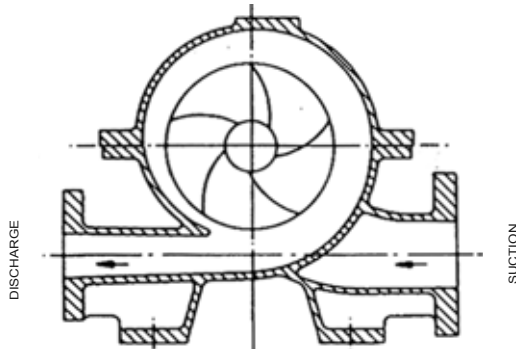

Figure 1: CLOCKWISE ROTATION
Note: For clockwise rotating pumps position the rotating element assembly over the bottom half of the casing with the suction end positioned to the right. Make sure the vanes curve away from the section end. Pushing and not scooping the fluid as shown in Figure 1 above.
- 4.5.27 Lift rotating element and position over the bottom half of the casing. Use overhead hoist and lifting straps in necessary. Turn wear rings to align guide holes with the locating pin in the casing. The wear rings have guide holes 180 degrees from another to aid in aligning guide holes and pins. Check impeller for correct rotation using Figures 1 and 2 above.